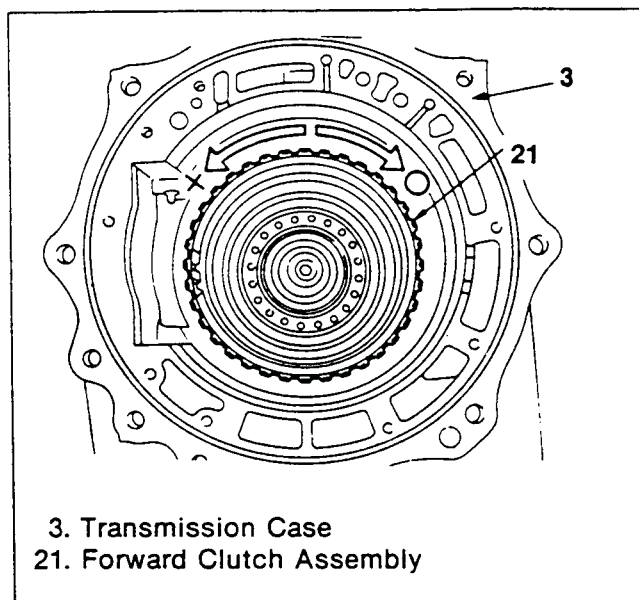

Figure 254. Forward Clutch Assembly Installation
2. Put the forward clutch assembly into the case while turning it clockwise (figure 254).